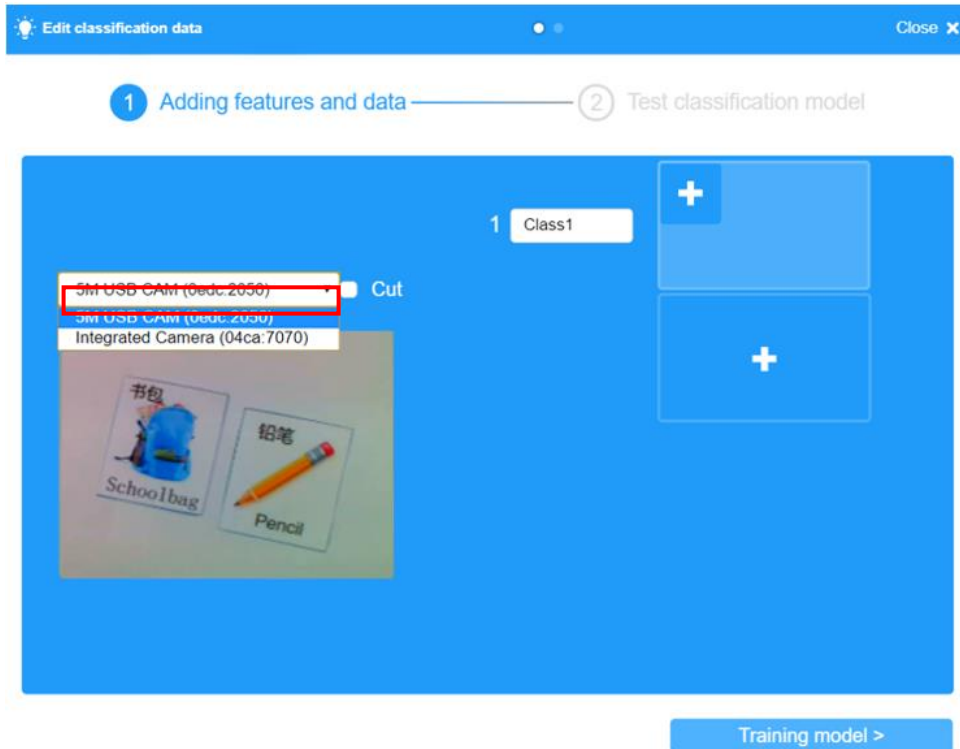

Figure 4.3 Starting the camera on the robotic arms
Step 5: Select and start the camera on the robotic arms, as shown in Figure 4.3.